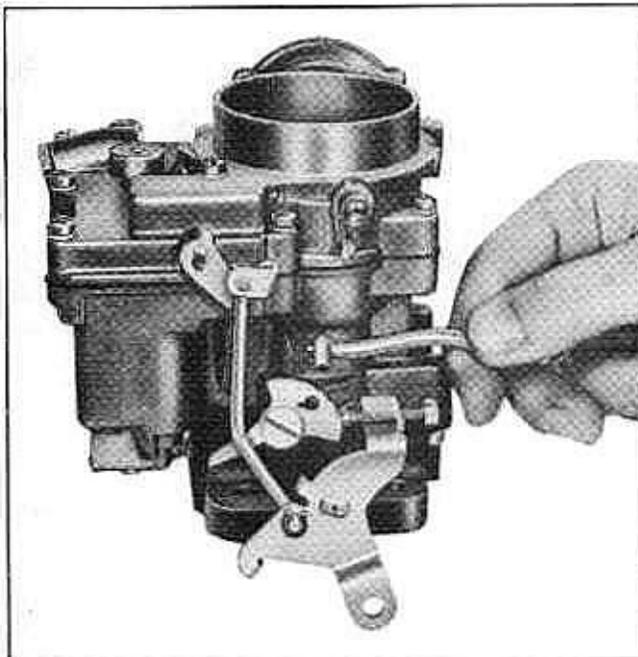

Fig. 6B-73 Removing or Replacing Link in Fast Idle Cam
17. Replace link in fast idle cam (Fig. 6B-73) and choke lever (Fig. 6B-52), place choke lever on cover with the tang facing outward and toward the pump lever. Install spacer washer and trip lever so that tang of trip lever is under tang of choke lever, and install retaining screw (Fig. 6B-51).